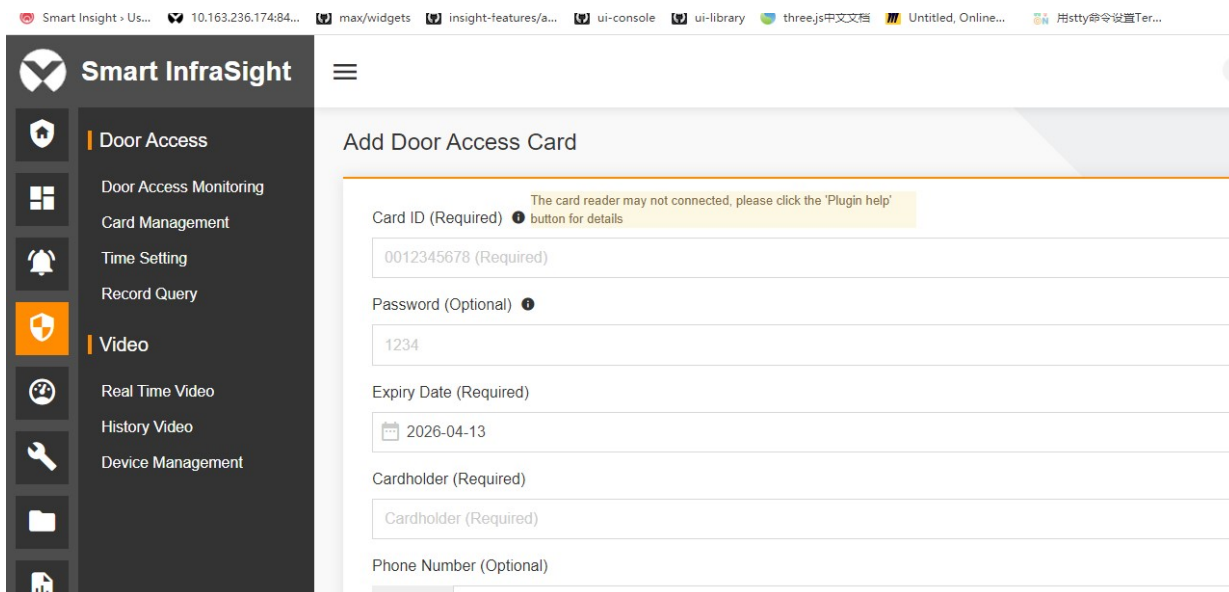

Figure 13-34 Adding a card
1. Click **+** in the upper right corner to add a card. The page as shown in Figure 13-34 is displayed.